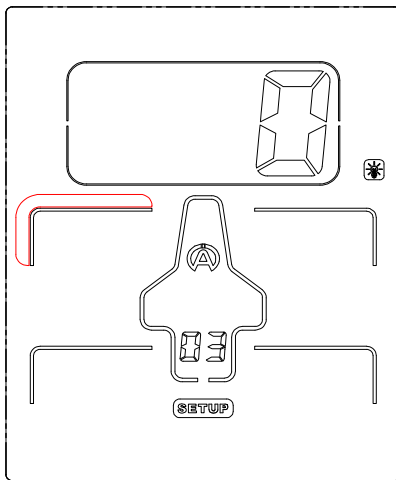

Figure 13
- 2) The front left tyre appears by default blinking (figure 13)